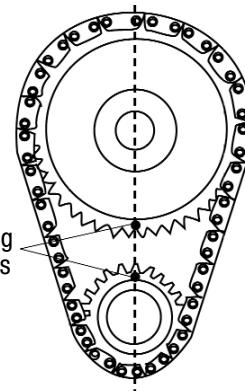

Figure 1- Timing Chain Sprocket Alignment
14. Rotate engine until timing marks are aligned (**See Figure 1**).
Install camshaft with timing marks lined up as recommended by factory specifications (**See Figure 1**). Edelbrock Timing Sets feature three keyways for specific timing selection. Use the "0" or straight-up position for most applications. When using Performer-Plus Timing Chain and Gear Set #7801 with Edelbrock cam and lifter kits, straight up timing alignment is achieved. If any other timing gear set is used, it is necessary to check cam position for correct timing alignment. This requires indexing the camshaft with a degree wheel to verify timing alignment. O.E.M. or non-Edelbrock timing gear sets are not recommended for use with Edelbrock camshafts.
After the cam is installed and timed correctly (**See Figure 1**), it will be necessary to check each pushrod for correct lifter pre-load. Before installation, be sure to coat friction surfaces of pushrods, rocker arms and pivots with a suitable lubricant such as motor oil or assembly lube.